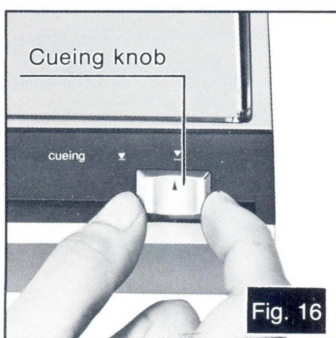

Fig. 16
- 5 Set the cueing knob to the "▼" position. (See Fig. 16.)